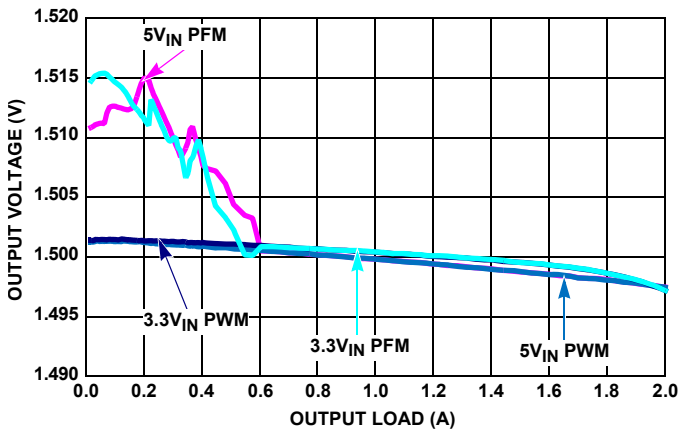

FIGURE 10.  $V_{OUT}$  REGULATION vs LOAD,  $f_{SW} = 2\text{MHz}$ ,  $V_{OUT} = 1.5\text{V}$ ,
- Not tested in production. Characterized using evaluation board. Refer to Figures 10 through 12 load regulation diagrams.  $T_A +105^\circ\text{C}$  represents near worst case operating point.